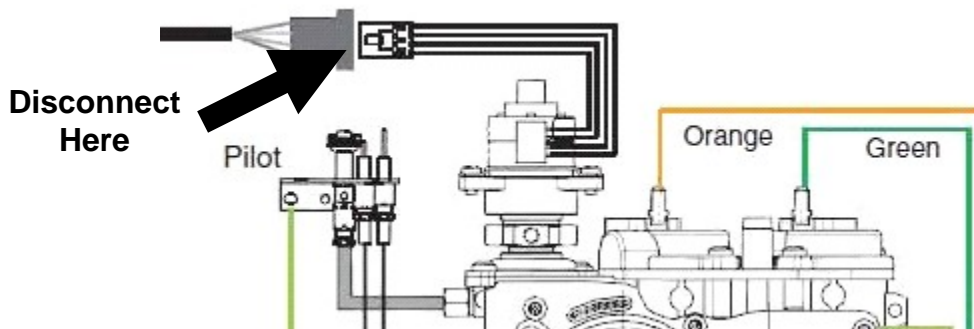

Figure 5 - Motor Lead Connection Detail
14. You will need to disconnect the motor lead. Follow the wires from the stepper motor back until the first connection. Disconnect the wires at this junction. See Figure 5.